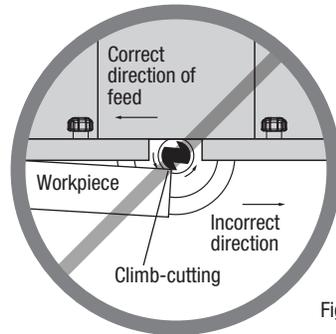

Fig. 2
- It will cause climb-cutting where the workpiece can “climb” off the tabletop in the direction of the bit rotation, pulling the workpiece and possibly your hands into the rotating bit (Fig. 2).